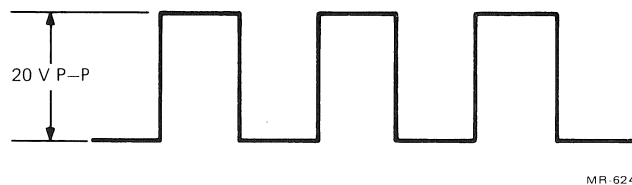

Figure 6-5 DAC Square Wave Test Pattern
10. Start Test 6 of the diagnostic and monitor the outputs of D/A A and D/A B. Their outputs should be a square wave, as shown in Figure 6-5, indicating that no bits are missing. Type **CTRL C** to stop Test 6 completing the calibration procedure.